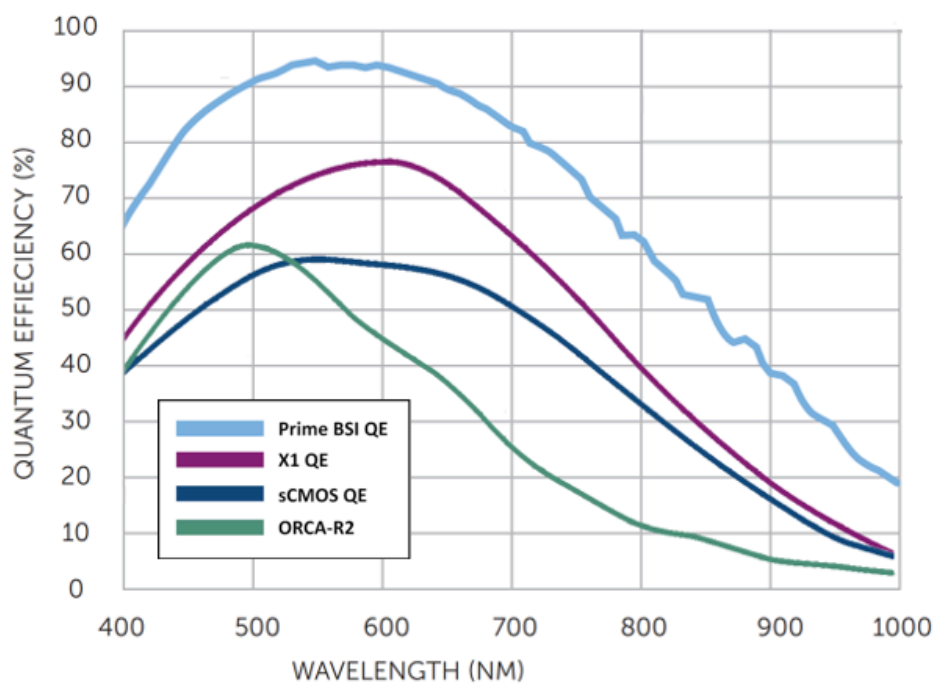

Figure 38 Camera quantum efficiency vs. wavelength
Camera	Photometrics Prime BSI: High-resolution, thermo-electrically cooled to –20°C; up to 16-bit dynamic range (15-bit range for HCS Studio™ Cell Analysis Software, 16-bit for acquire only); FOV 2048 × 2048 pixel array; 6.5 × 6.5 micron pixel size; >95% peak Quantum Efficiency (QE); USB 3.0 (no additional CameraLink or Firewire Cards needed) See Figure 38 for the camera quantum efficiency vs. wavelength graph.